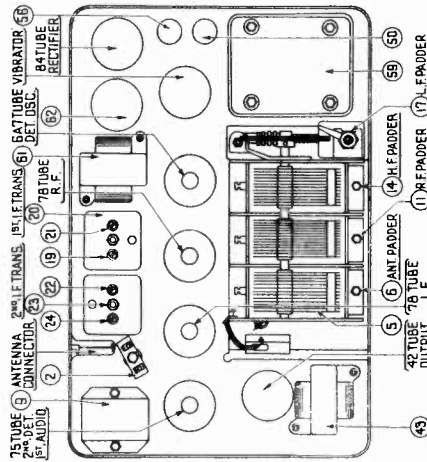

FIGURE 1
1. F. — Set the signal generator at exactly 260 K. C. Connect the generator lead to the grid cap of the 6A7 tube in series with a .1 mfd. condenser (without removing the grid clip). Adjust the paddlers (2), (3), (4) and (5) on the first and second I. F. transformers for maximum reading on the output meter. (See Figure 1 for location of paddlers).